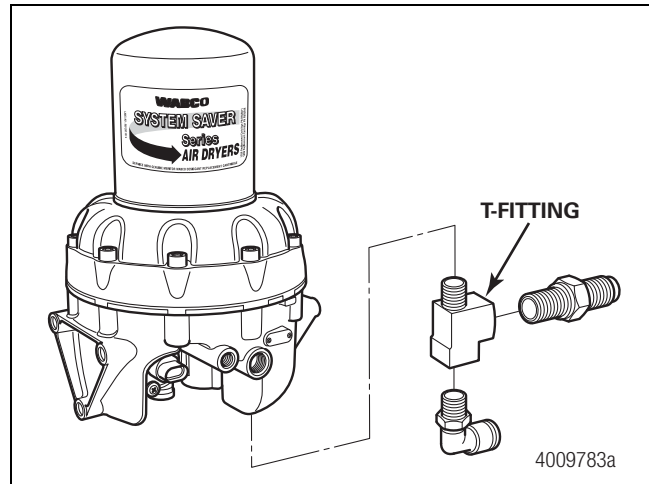

Figure 8.1
6. Install a T-fitting into the discharge port. Figure 8.1.